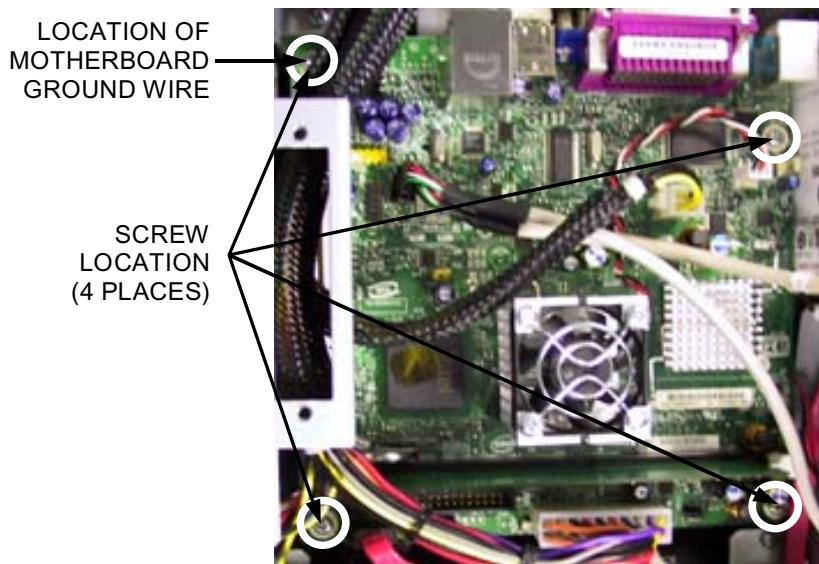

FIGURE 2 - LOCATION OF FOUR SCREWS SECURING RX MOTHERBOARD
4. Remove all motherboard connections, noting their positions, and unscrew the motherboard in 4 places, noting the location of the motherboard ground wire (see Figure 2).
1. Slide the new motherboard into the system, making sure the screw holes on the motherboard line up with the mating holes on the bottom of the chassis. Secure the motherboard in place with 4 screws, resecuring the motherboard ground wire in the process (see Figure 2).